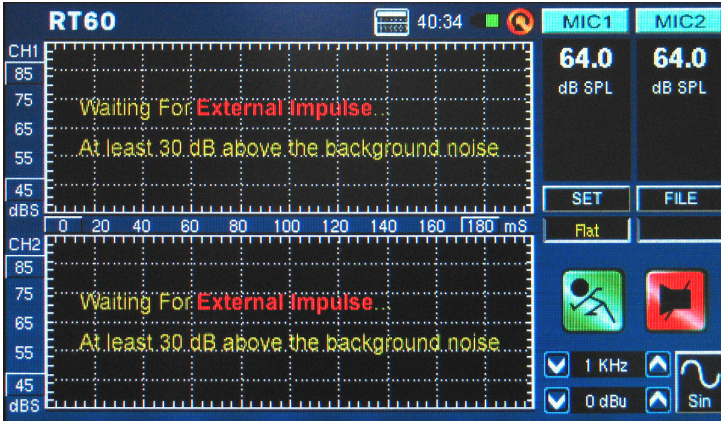

figure 38
4. The PAA6 will wait for a signal greater than 30 dB over the background noise. A little helpful hint: the louder the test signal, the greater the accuracy of your RT60 calculation (figure 38).